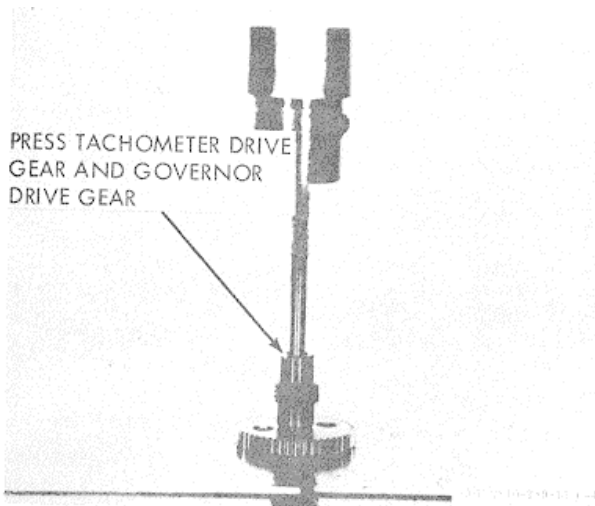

Figure 3-47. Tachometer drive gear and governor drive gear being pressed.
(1) Press tachometer drive gear and governor drive gear from drive shaft (fig. 3-47).